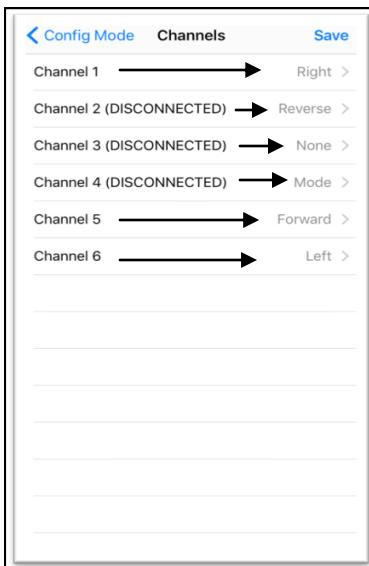

Figure 6
4. After channel assignments have been made, in the *Channels* tab, all of the selections will appear to the right of the channel they have been assigned to (Figure 6). If the channels are to the correct assignments, select *Save* in the top right hand corner.